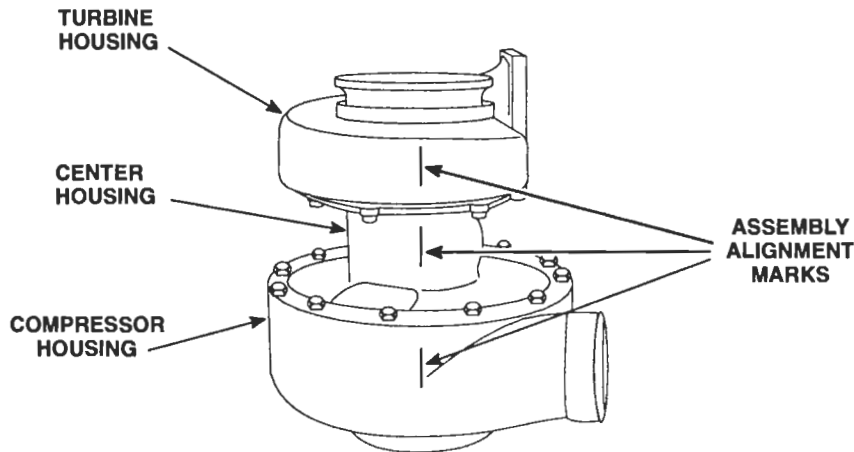

Figure 16. Turbocharger Housing Alignment Marks
2. Matchmark the compressor housing, center housing and the turbine housing with a punch or chisel (Figure 16.) so they may be installed in the same relative position.